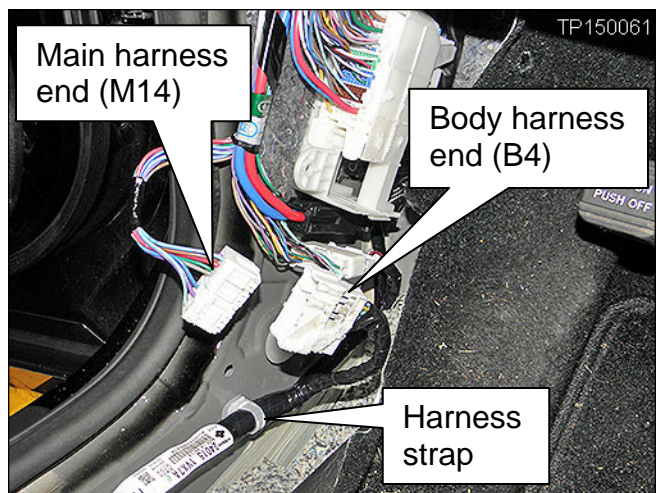

Figure 4
- Take loose the harness strap shown in Figure 4.